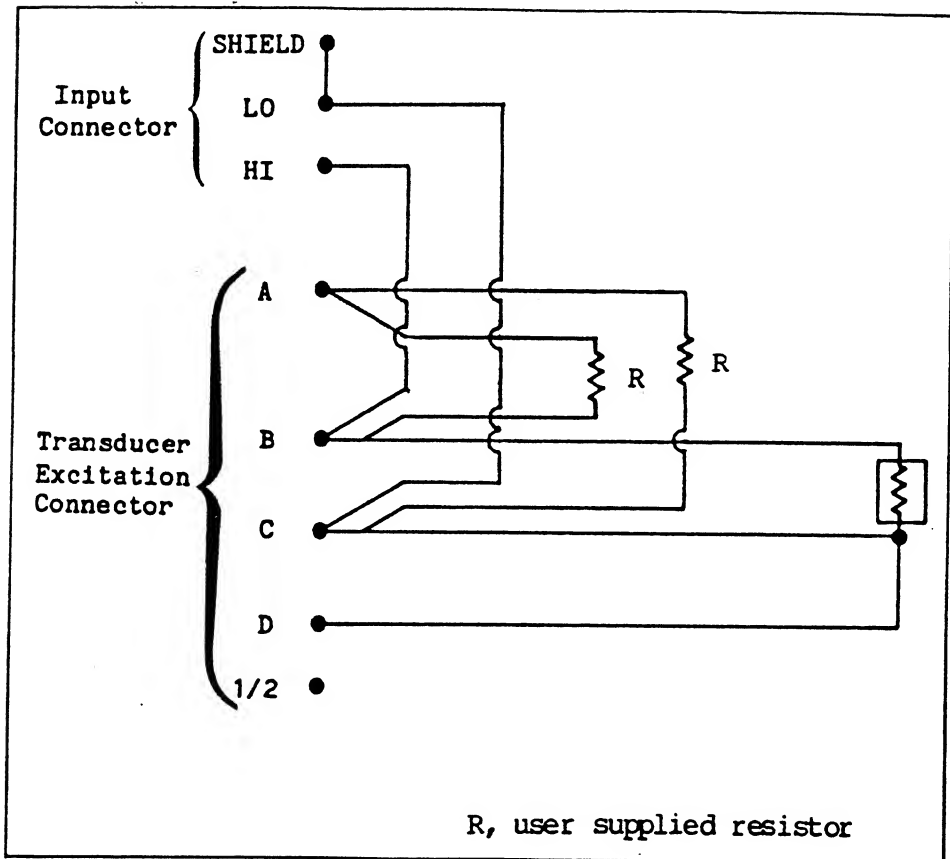

Figure 174-5. Wiring (3-Wire RTD, Constant Voltage)
- o RTD measurements using a 3-wire, constant voltage source must use the wiring shown in Figure 174-5.